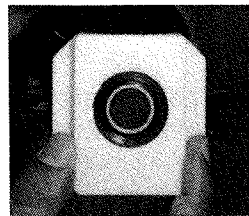
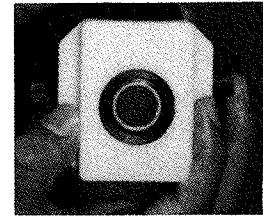

Figure 10
Figure 11
4. Rotate both bearing blocks 180 degrees and re-install with the longer side to the top. Figure 10 shows the bearing blocks in their original position with the short side up. Figure 11 shows how they should be re-installed with the longer side up. This lowers the brush 3/16" closer to the floor for extended life.